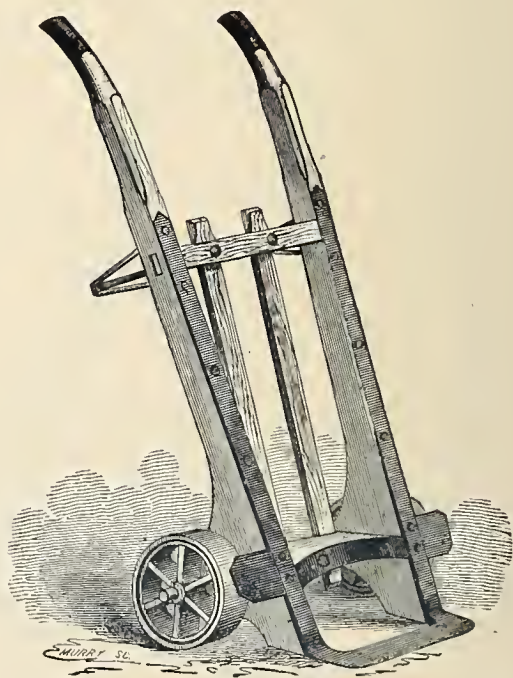

Fig. 506. — Heavy Truck.
*The Heavy Truck*, shown by *Fig. 506*, is made very strong, and intended for use in handling boxes of metal, and articles of a heavy nature packed in cases or casks.